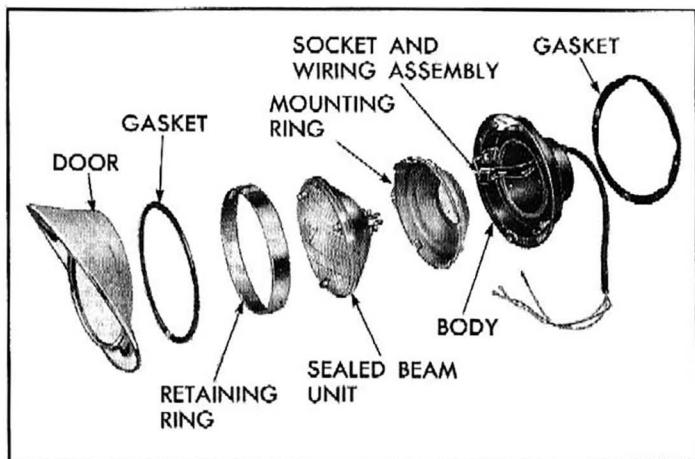

Fig. 62—Headlamp Parts
**Description.** All Chevrolet trucks are equipped with "Sealed Beam" headlight units in which the light source, the reflector, lens and gasket are all assembled in a securely sealed unit. Figure 62 shows the component parts of the light. With this sealed unit dirt or moisture cannot enter the assembly; therefore, it retains its light reflecting ability indefinitely.